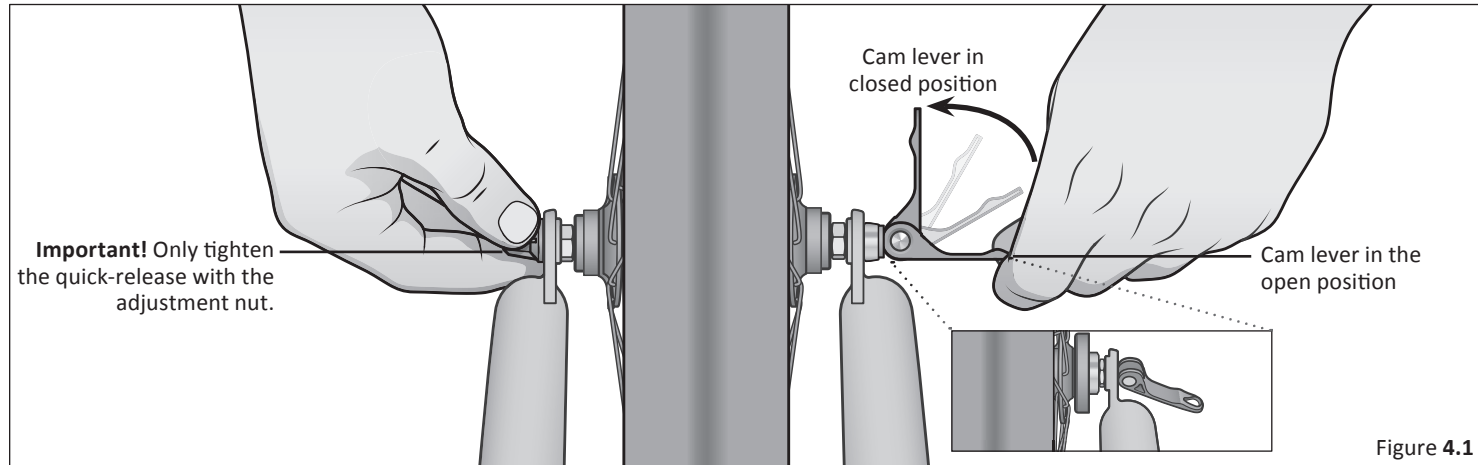

Figure 4.1
1. A hollow axle with a shaft **skewer** running through it which has an adjustable tension nut on one end and an over-center cam on the other (cam action system, **Figure 4.1**)
There are currently two types of over-center cam wheel retention mechanisms: the traditional over-center cam (**Figure 5.1**) and the cam-and-cup system (**Figure 4.1**). Both use an over-center cam action to clamp the bike's wheel in place. Your bicycle may have a cam-and-cup front wheel retention system and a traditional rear wheel cam action system.
- A. Adjusting the traditional cam action mechanism (**Figure 4.1**) The wheel hub is clamped in place by the force of the over-center cam pushing against one dropout and pulling the tension adjusting nut, by way of the skewer, against the other dropout. The amount of clamping force is controlled by the tension adjusting nut. Turning the tension adjusting nut clockwise while keeping the cam lever from rotating increases clamping force; turning it counterclockwise while keeping the cam lever from rotating reduces clamping force. Less than half a turn of the tension adjusting nut can make the difference between safe clamping force and unsafe clamping force.
B. Adjusting the cam-and-cup mechanism (Figure 4.1)
2. If your bike has cam action front wheel retention, move the cam lever from the locked or CLOSED position to the OPEN position (**Figure 4.1**). If your bike has through bolt or bolt-on front wheel retention, loosen the fastener(s) a few turns counter-clockwise using an appropriate wrench, lock key or the integral lever.
3. If your front fork has a clip-on type secondary retention device, disengage it. If your front fork has an integral secondary retention device, and a traditional cam action system (**Figure 4.1**) loosen the tension adjusting nut enough to allow removing the wheel from the dropouts. If your front wheel uses a cam-and-cup system, (**Figure 4.1**) squeeze the cup and cam lever together while removing the wheel. No rotation of any part is necessary with the cam-and-cup system.
1. If your bike has cam action front wheel retention, move the cam lever so that it curves away from the wheel (**Figure 4.1**). This is the OPEN position. If your bike has through bolt or bolt-on front wheel retention, go to the next step.
2. With the steering fork facing forward, insert the wheel between the fork blades so that the axle seats firmly at the top of the fork dropouts. The cam lever, if there is one, should be on rider's left side of the bicycle (**Figure 4.1**). If your bike has a clip-on type secondary retention device, engage it.
3. If you have a traditional cam action mechanism: holding the cam lever in the ADJUST position with your right hand, tighten the tension adjusting nut with your left hand until it is finger tight against the fork dropout (**Figure 4.1**). If you have a cam-and-cup system: the nut and cup (**Figure 4.1**) will have snapped into the recessed area of the fork dropouts and no adjustment should be required.
- A. With a cam action system, move the cam lever upwards and swing it into the CLOSED position (**Figure 4.1**). The lever should now be parallel to the fork blade and curved toward the wheel. To apply enough clamping force, you should have to wrap your fingers around the fork blade for leverage, and the lever should leave a clear imprint in the palm of your hand.
1. With a cam action system, move the cam lever to the OPEN position (see **Figure 4.1**). The lever should be on the side of the wheel opposite the derailleur and freewheel sprockets.
Some bikes are equipped with a cam action seat post binder. The seat post cam action binder works exactly like the traditional wheel cam action fastener (**Section 4.A.2**). While a cam action binder looks like a long bolt with a lever on one end and a nut on the other, the binder uses an over-center cam action to firmly clamp the seat post (see **Figure 4.1**).